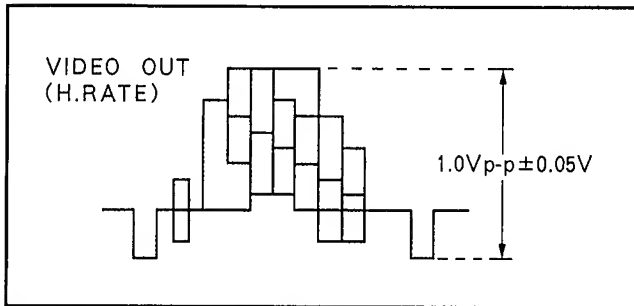

Fig. E7
2. Adjust VR30005 so that Y level is 1.0V ± 0.05Vp-p. (Refer to Fig. E7)